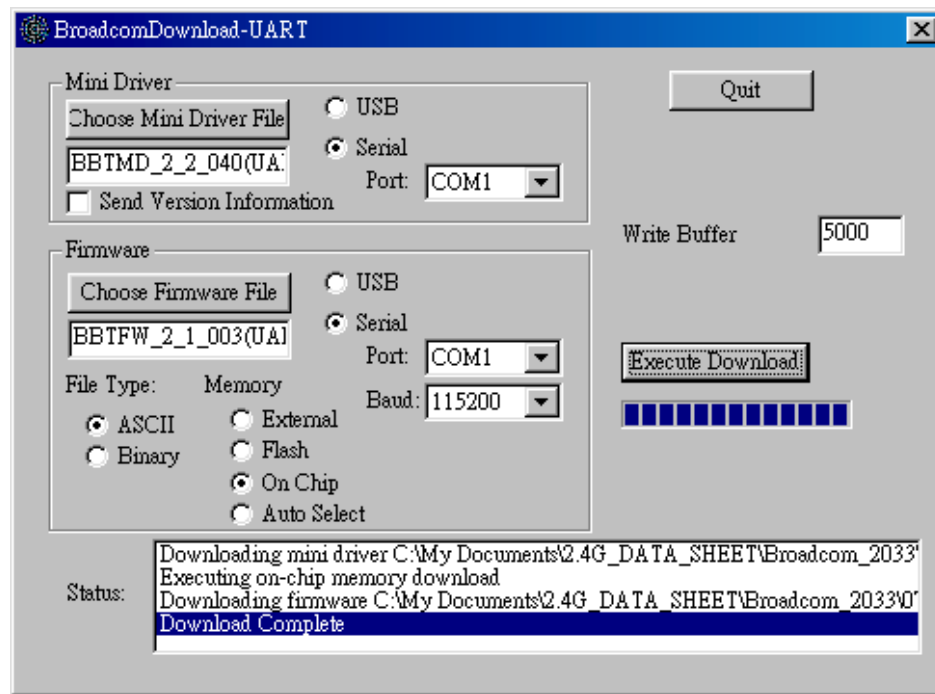

Figure 6: Firmware download completed
- When the download is complete, click **Quit** to exit the program and the system is ready for further HCI testing or software development. (as Figure 6)